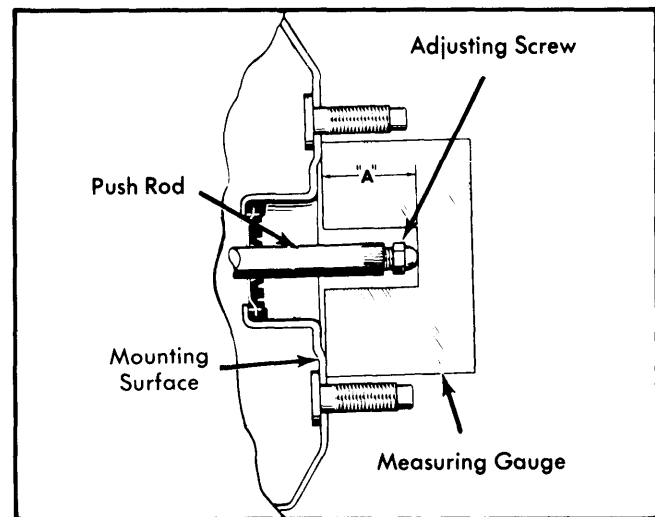

Fig. 6 Checking International Harvester Push Rod Height
2) Using gauge, check distance from unit mounting surface to end of push rod as shown in illustration (see Fig. 6). If push rod does not contact gauge, adjust screw in end of push rod until it contacts. To determine dimension "A", see following application chart.